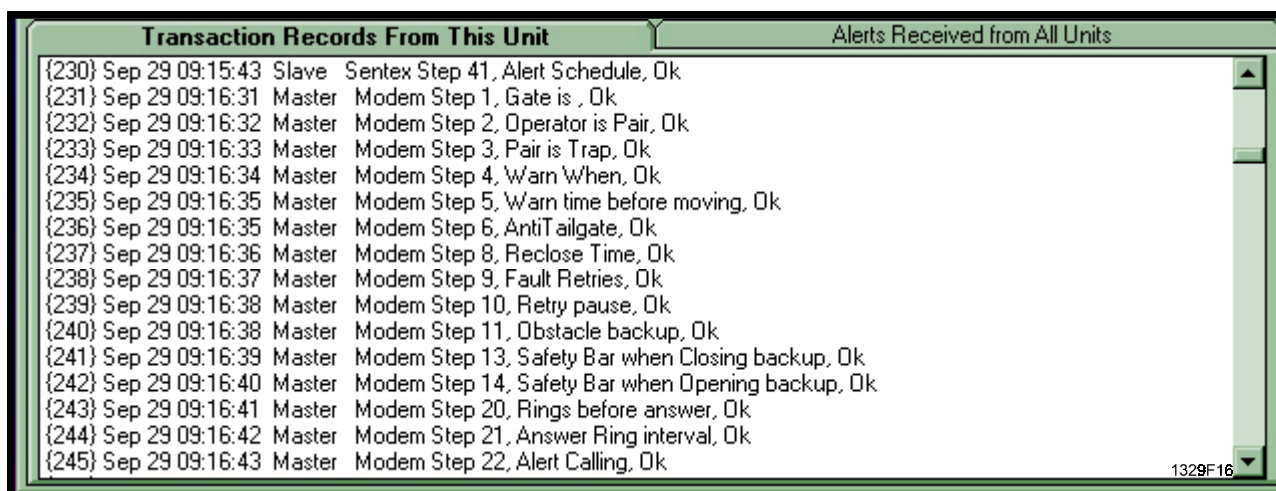

Figure 20: Transaction Report (X1/X3)
Every action made by the gate operator is remembered in the "Transaction" record. These records include the type of action, what initiated it, and the date and time (See Figure 20). Unit transaction records are stored in the gate operator memory, and can be retrieved, viewed, printed and erased by SGoWin.
9. **Records** - Click on the "TRANSACTION RECORDS FROM THIS UNIT" tab. The transactions will be displayed in the window below the tab (Figure 20).